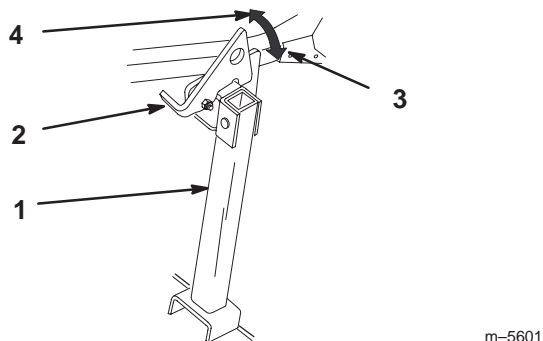

Figure 32
1. Raise latch to unlocked position (Fig. 32).